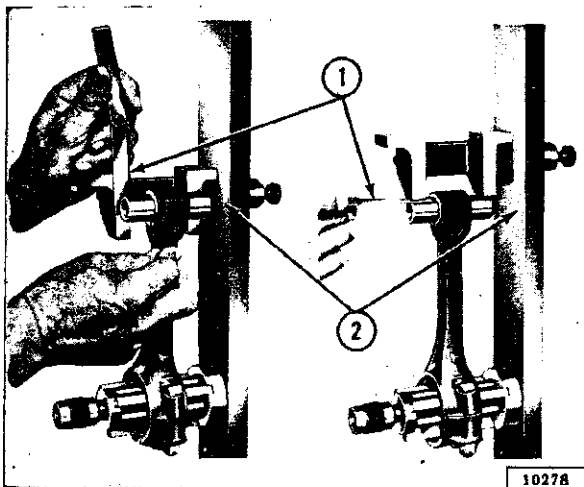

FIG. D-8—CHECKING CONNECTING ROD ALIGNMENT
b. Check and if necessary correct connecting rod alignment using a connecting rod aligning fixture, such as the one shown in Fig. D-8, in accordance with the instructions furnished with the fixture.